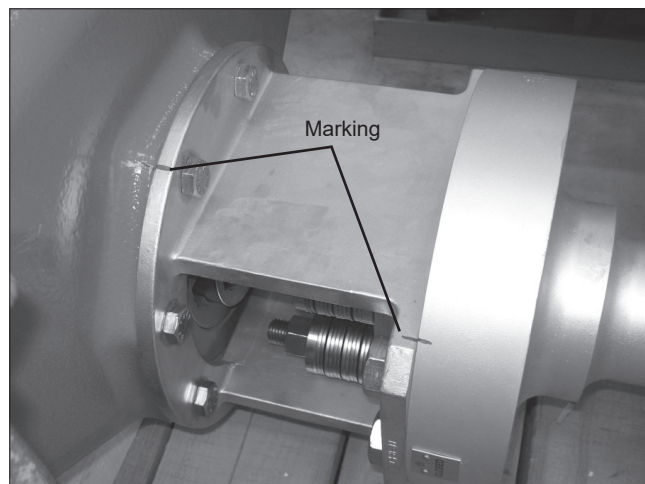

Fig. 10 Before detaching the actuator, tag its position to the shaft and the disc on the bracket.
- When detaching the actuator to demount the valve, the actuator should be tagged to the bracket and the valve body with a water-proof marker (Figure 10). It makes it easy to find the correct position of the actuator at reassembly and the actuator cannot cause a malfunction.